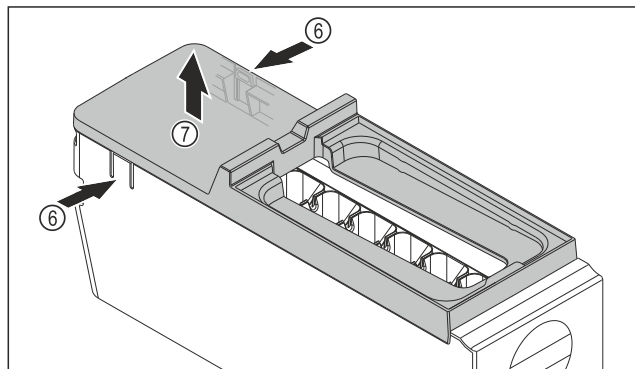

Fig. 149
- ▶ Removing the EasyTwist-Ice body cover: Push the tabs Fig. 149 (6) on both sides of the EasyTwist-Ice body with one hand.
- ▶ Use the other hand to remove the cover Fig. 149 (7) upwards.